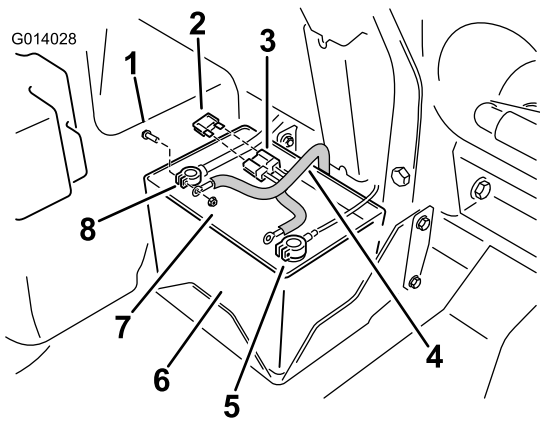

Figure 17
4. Attach the positive, red ring terminal on the electrical harness to the fastener on the red batter cable (Figure 17).
- Connect the negative, black ring terminal to the negative battery cable (Figure 17).
- At the battery, install the fuse in to the open connector in the harness (Figure 17).